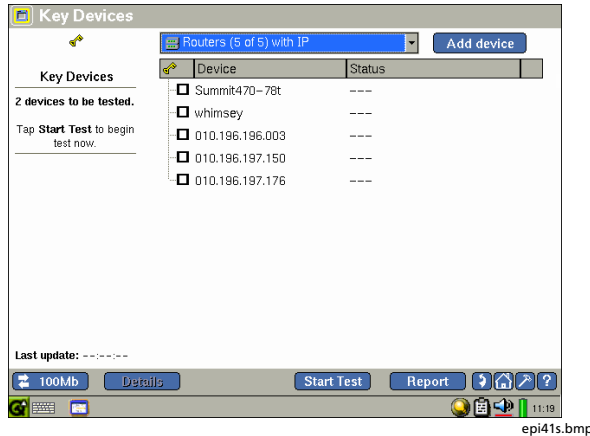

Figure 18. Problem Log
- If errors are indicated, tap **Details** to look at the **Problem Log** (Figure 18):